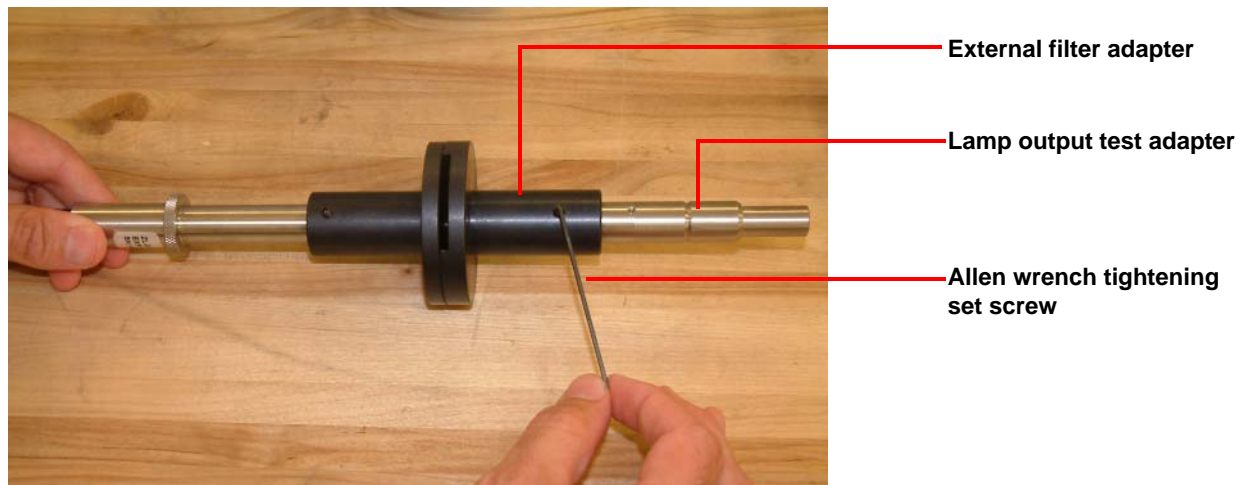

Figure 14 Lamp output test adapter installed in external filter adaptor.
- 3 Insert the narrow end of the lamp output test adapter into the other end of the external filter adapter assembly. Ensure that the lamp output test adapter is fully seated. Tighten the set screw using the 1.5-mm Allen wrench in order to secure the connection. See Figure 14.